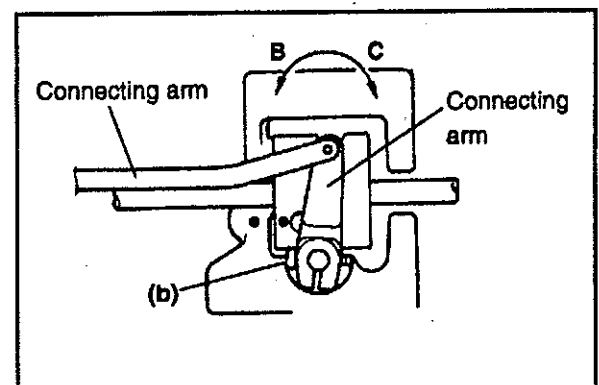

FIG.4
- (2) Loosen retaining screw (b) (Fig.4).
- (3) Move the connecting plate in either direction B or C to make the adjustment (Fig.4).
- (4) Retighten retaining screw (b) (Fig.4).